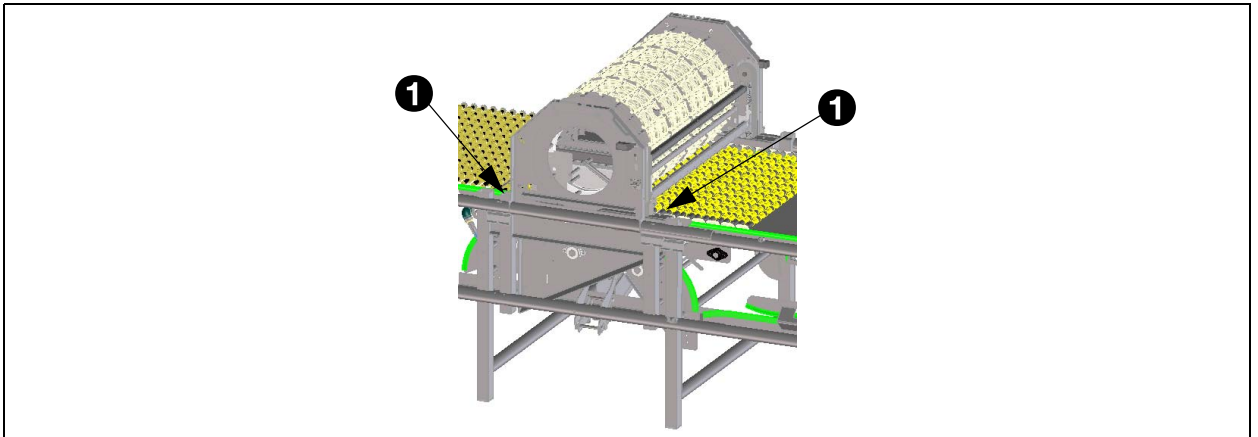

Fig. 75 - Location of the chain-wheels
The adjustment points (1) are accessible on the inside of the MultiDrum™. See fig. 75.